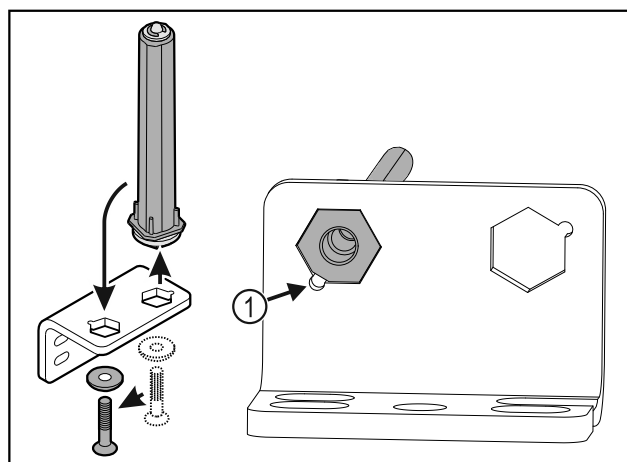

Fig. 36
- ▶ Make sure the pin chamfer Fig. 36 (1) faces the round hole when you put it in.